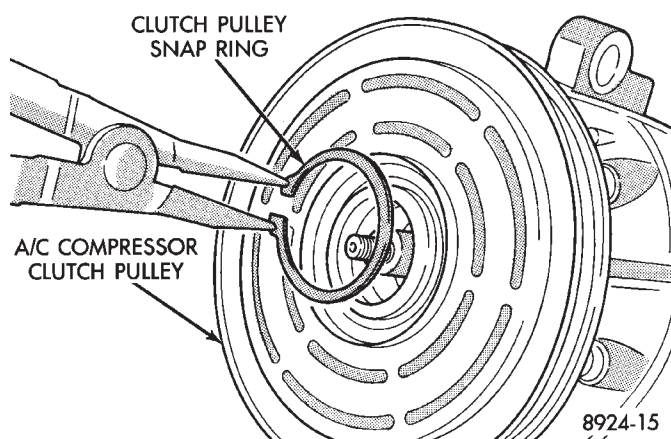
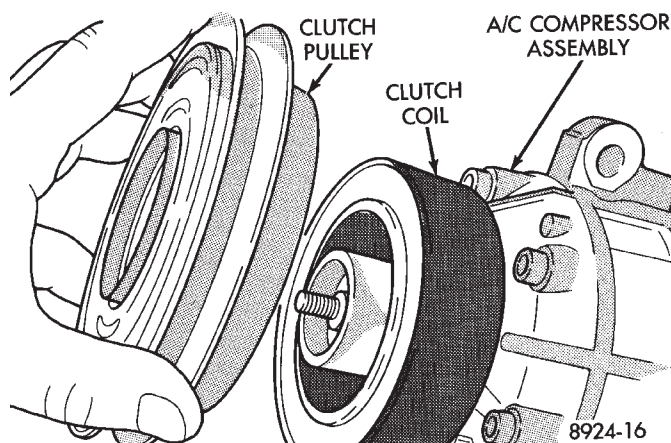

Fig. 7 Remove or Install Pulley Snap Ring
Fig. 8 Remove or Install Pulley
- (3) Remove clutch pulley retaining snap ring (Fig. 7) and pull the pulley from the assembly (Fig. 8).
- (4) Remove the clutch coil wire lead strap screw.